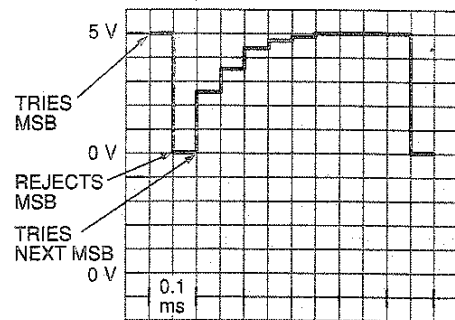

FIGURE 29-2.
8. See Figure 29-2. Eight steps are required to complete a conversion; same as with  $V_{\text{IN}}$  of  $10\text{ V}$ , 2000 conversions per second.